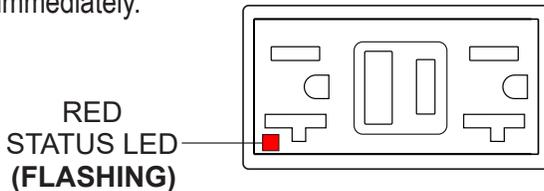

Figure 76. GFCI Receptacle (Red Flashing LED)
6. If the **status LED** (Figure 76) is **flashing (RED)**, **DO NOT** use the GFCI receptacle. Replace it immediately.